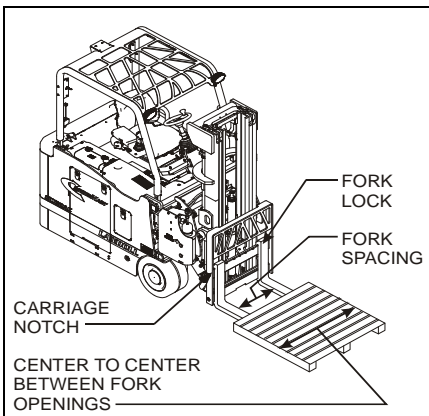

Figure 4-8: Forks Position
Before you get on the forklift make sure the spacing between the forks is properly set. **See Figure 4-8.**
3. Move the forks until the center to center spacing is equal to the center to center distance. Make sure the forks are seated in a carriage notch and equidistant from the ends of the carriage. **See Figure 4-8.**